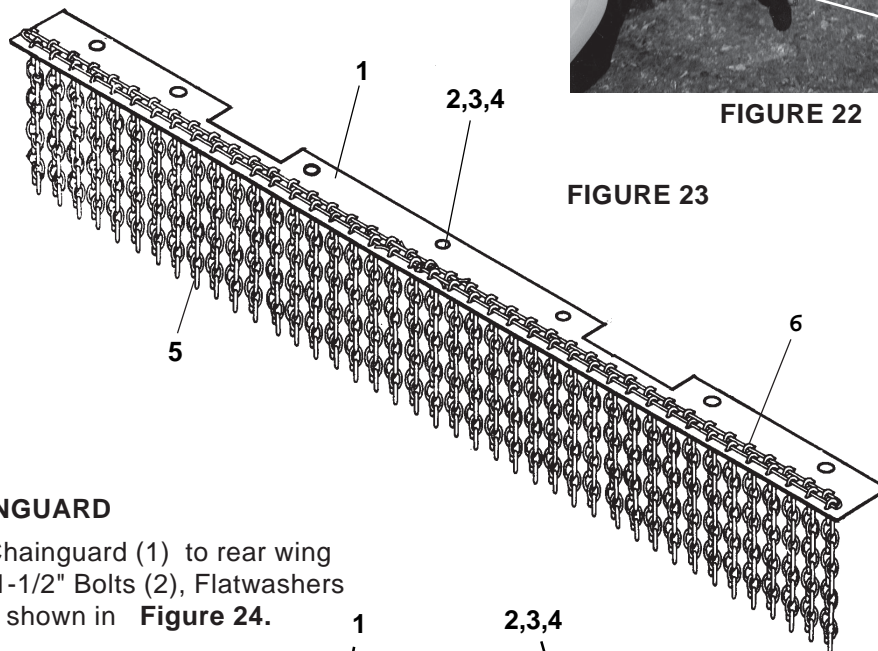

FIGURE 23
Attach Rear Center Chainguard (1) to rear center deck using 7/16" x 1-1/2" Bolts (2), Flatwashers (3), and Nuts (4) as shown in **Figure 23**. Individual Chain links (5) should be inserted into chainguards and held with Retaining Rod (6).